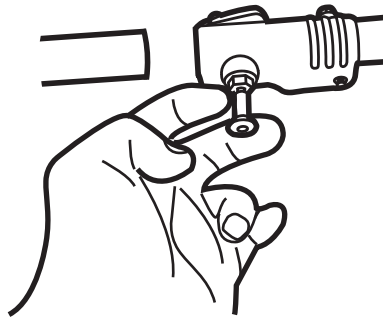

Fig. 2
- c). Pull out the locking pin and insert the extension into the clamp. Release the locking pin and ensure it engages in the hole. (See Fig. 2)